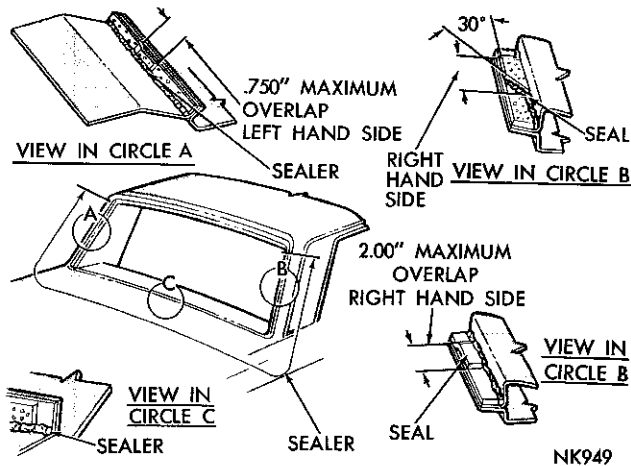

Fig. 126—Rear Window Seals and Sealers
When replacing the polyethylene seal (Fig. 126) it is necessary that the fence area is free of all cement, sealers and other foreign material. Inspect the fence area for burrs and misalignment and correct as necessary.
(1) Apply a $\frac{1}{4}$ inch bead of sealer across the bottom of the rear window opening and up both sides to the lower edge of the upper corners (Fig. 126).
(2) Position one polyethylene seal to the window opening fence at the lower section first, above the sealer applied in step 1.
(3) Hand pressurize the seal to the sealer.
(4) Apply the upper seal starting with a $\frac{3}{4}$ inch overlap (maximum) at the left hand side.
(5) Apply the balance of the seal and when fully installed, the seal should overlap the lower seal at the right side by two inches (maximum).
(6) If overlap is greater than two inches, trim off the excess amount at approximately a 30 degree angle (Fig. 126).
(7) Hand pressurize both seals to avoid wrinkles and puckers.